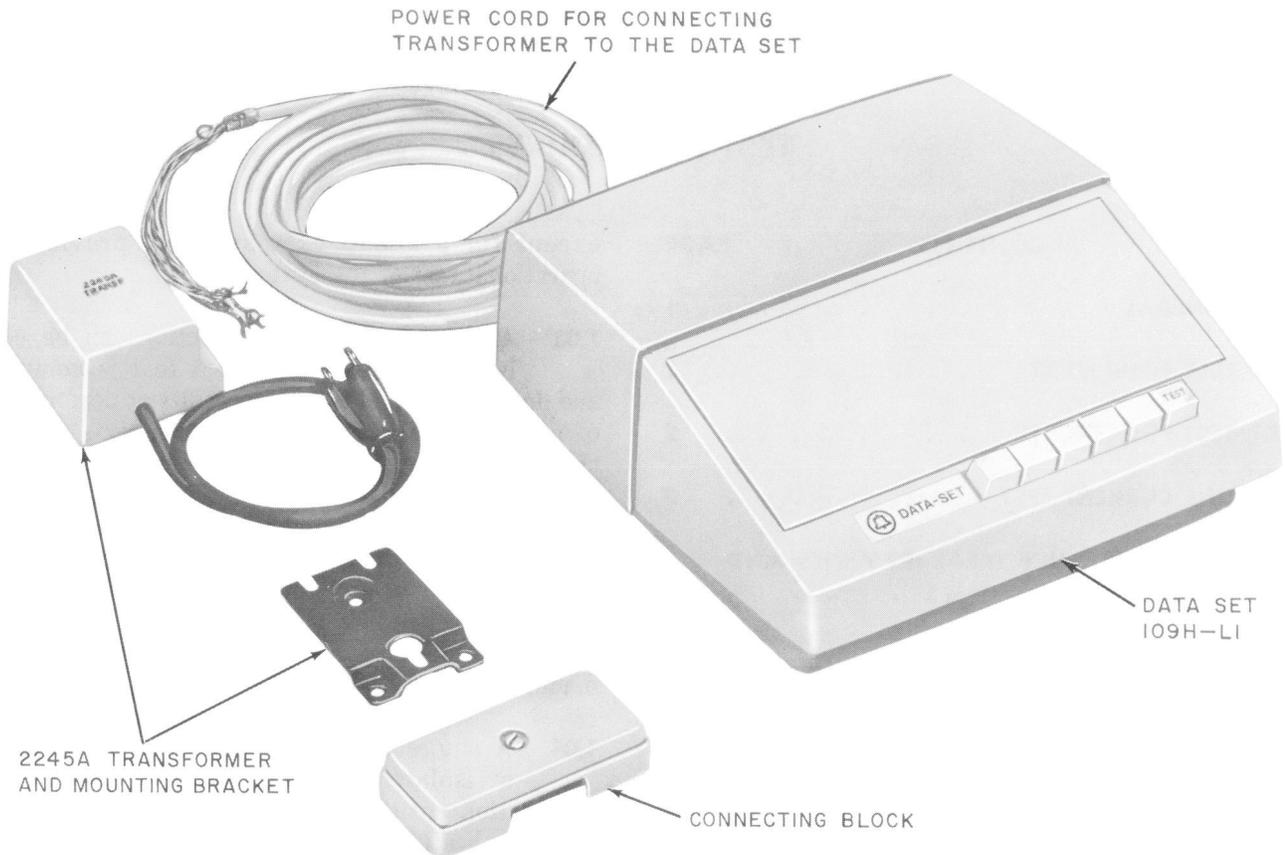

Fig. 1—Data Set 109H-L1
1.01 This practice provides information on testing the data set 109H-type (Fig. 1) when it is used as part of a private line system. The test procedures are designed to verify that the data set is operative and to aid in locating and clearing a trouble condition.